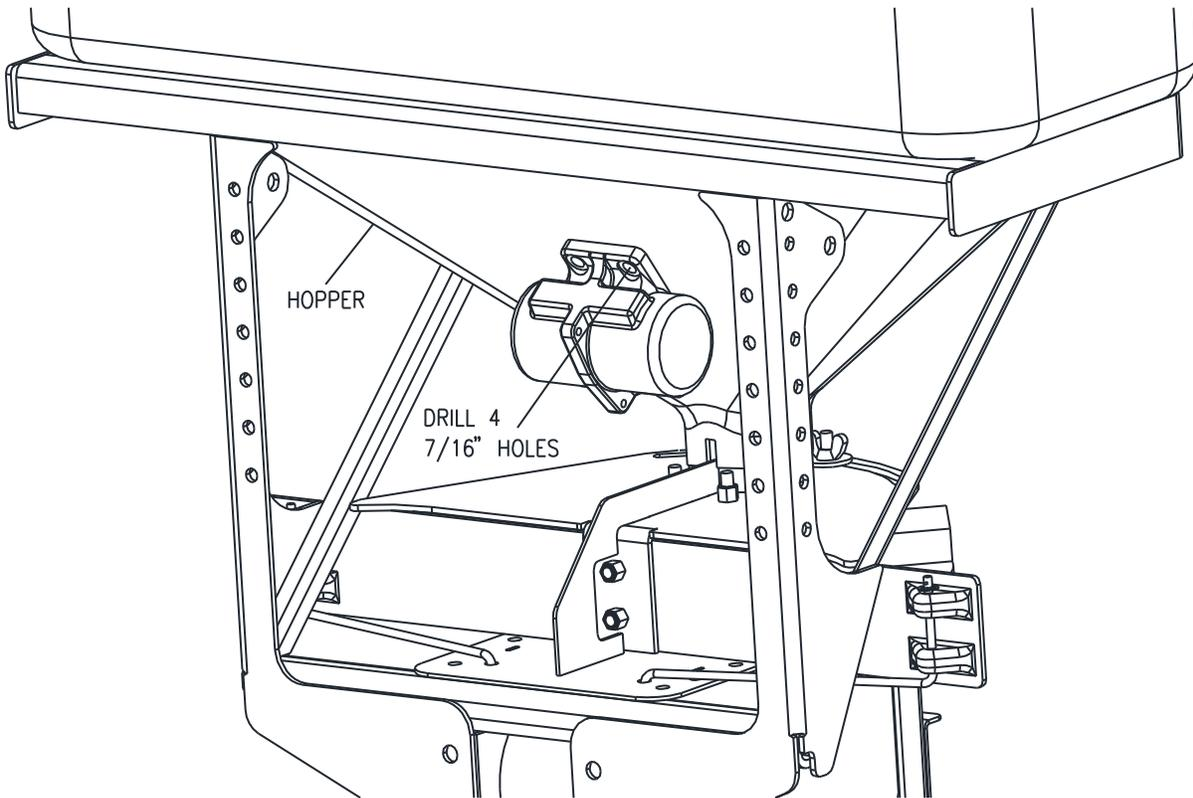

Figure 2. Align Vibrator Motor Assembly
1. Align Vibrator (1) as low as possible on back side of Hopper. Vibrator (1) should be facing away from hopper with mounting bracket on Vibrator (1) facing hopper as shown in Figure 2. Be sure there is adequate clearance between the vibrator unit and any of the existing spreader components.
2. Drill four 7/16" holes through Hopper using existing holes in Vibrator (1) as a guide. Refer to Figure 2.
3. Align Inner Bolt Plate (2) inside Hopper and align Vibrator (1) outside the Hopper with the drilled holes.
4. Attach Vibrator (1) and Inner Bolt Plate (2) to Hopper using four 7/16"-16 x 1-1/2" Stainless Steel Hex Head Cap Screws, four 3/8" Stainless Steel Split Lock Washers, and four 7/16"-16 Stainless Steel Nylon Lock Nuts.